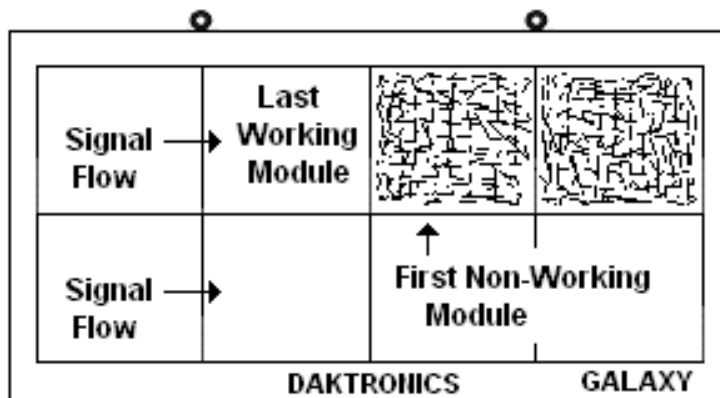

Figure 20: Modules Not Working
- Check/replace ribbon cables from the last working module in the row to the first non-working module next to it (**Figure 20**).